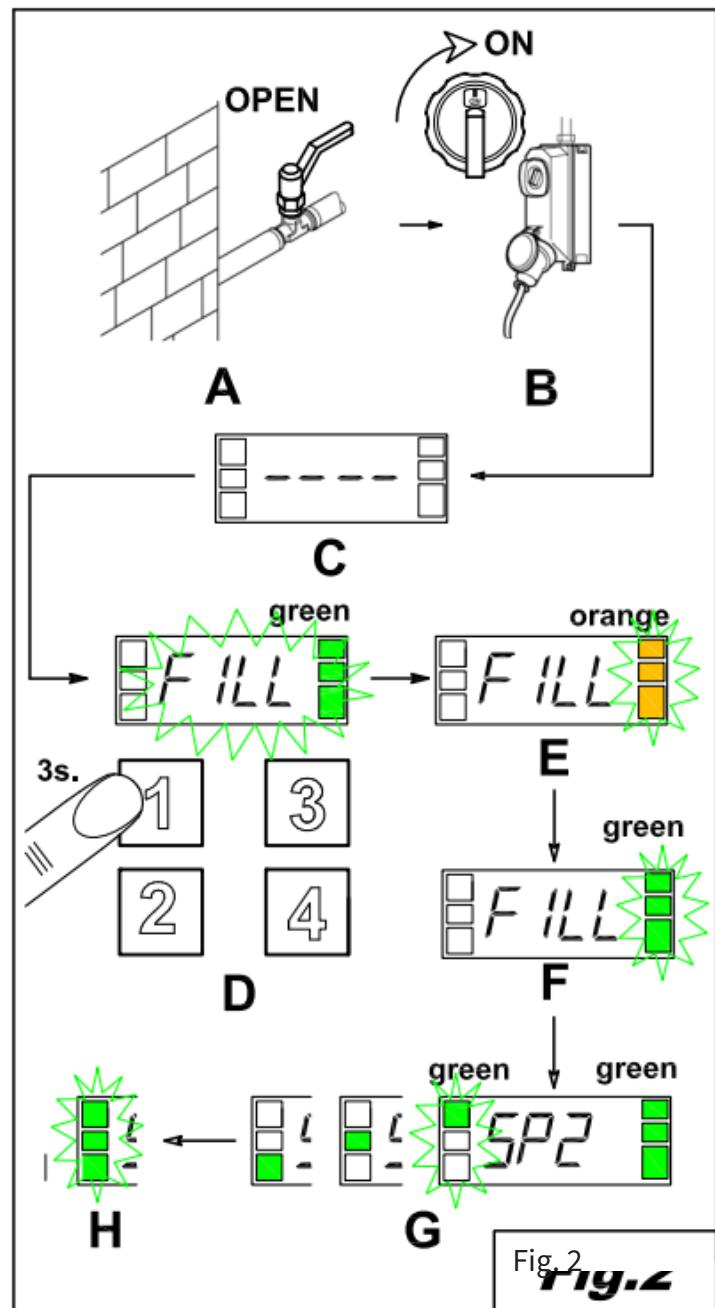

Fig. 2
Open the water filler plug (Fig. 2/A)
Using the main switch, connect the electrical power supply (Fig. 2/B)
The display shows 4 horizontal lines (Fig. 2/C)
To start the machine, press the line button (1) (Fig. 2/D)